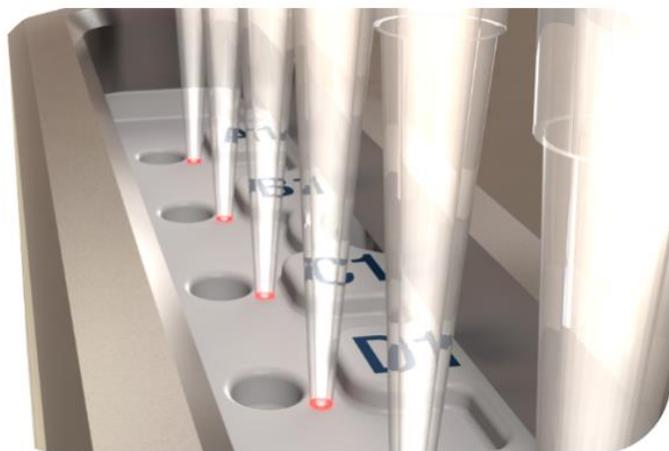

Figure 4 Retrieving the z_0 value
- The $z = z_0$ corresponds to the white surface of the RDG16 cartridge skirt around and between each pipetting holes (see Figure 4).